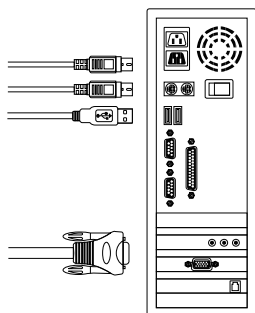
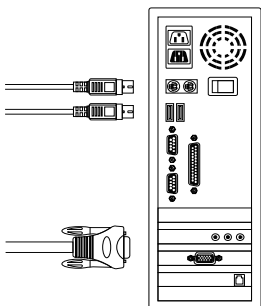

Figure 6. KVM-440 Front Panel
Figure 7. KVM-440 Front Panel
- A. Connect USB, PS/2 (keyboard/mouse) and VGA connectors to computers. We recommend that users connect computers in the manner shown below. (Figure 6)
- B. Connect only PS/2 (keyboard/mouse) and VGA connectors to computers. (Figure 7)
- Use the custom combo cable set (See Figure 5), to connect one or more Slave KVM Switches to any PC port of Master KVM Switch. The KVM to KVM must be connected through a PS/2 connection. (Please refer to Figure 6 & Figure 7).
Figure 7 shows you how to attach mounting brackets to the KVM Switch unit for a standard 19-inch rack cabinet.